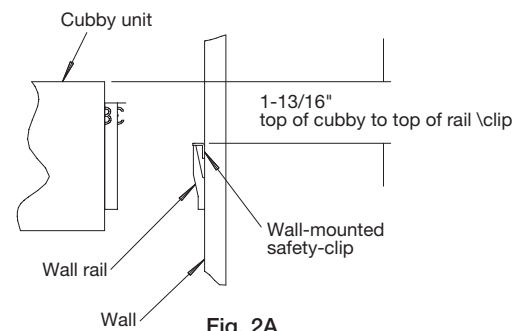
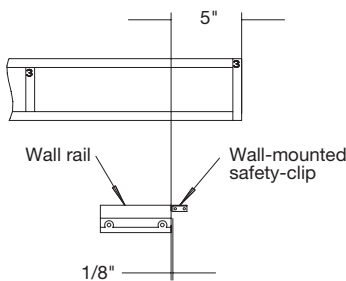

Fig. 2A
Fig. 3A
1. To position the cubby at the preferred height, first determine the height point off the floor based on the horizontal position required to the top of the cubby. From there, measure down 1-13/16" (Fig. 2A) to locate the top edge of the wall rail. The wall rail should be inset approximately 5" (Fig. 3A) from the outside end of the unit. Mark the wall to locate the wall rail location based on these requirements.
2. Using the wall rails previously mounted as reference, fasten the safety-clips to the wall aligned to the top edge of the wall rails leaving an approximate gap of 1/8" in between using fastener (B). (Fig. 3A)